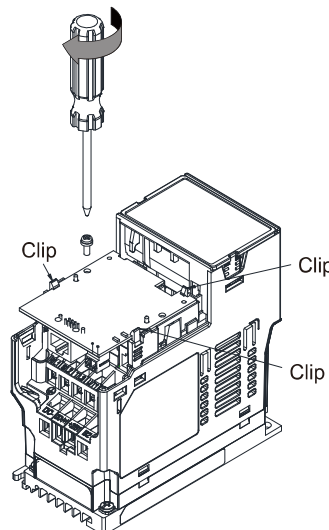

Figure 8-12
6. Make sure that three clips properly engage the option card and then tighten the screws (suggested torque value: 4–6 kg-cm / (3.5–5.2 lb-in.) / (0.39–0.59 Nm), as shown in Figure 8-12.